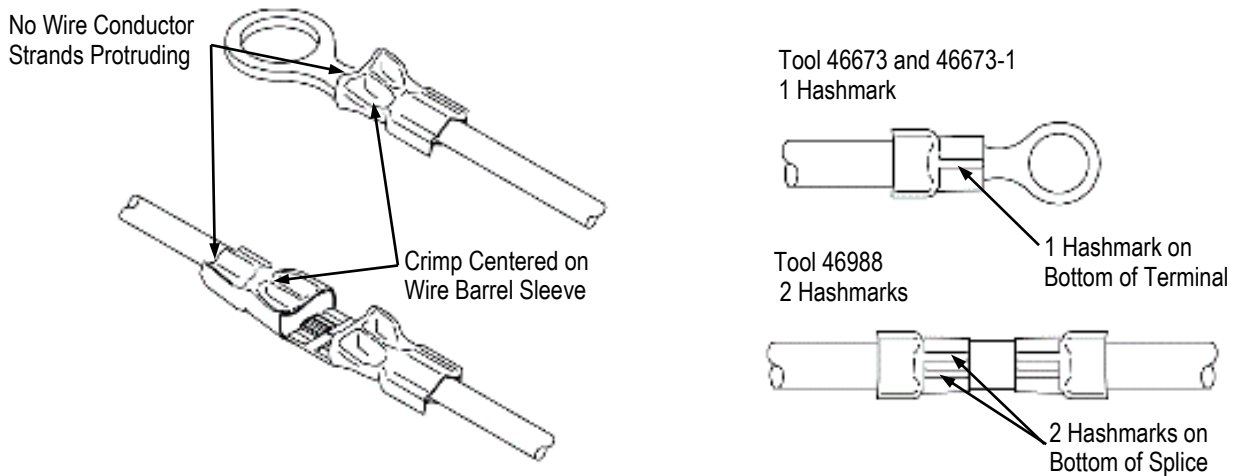

Figure 6
8. Inspect the crimp. Refer to Figure 6 for a properly crimped terminal and splice. Check the insulation grip on the crimped terminal or splice. Refer to Section 4, INSULATION CRIMPING ADJUSTMENT.
*The hashmark code on the bottom of the wire barrel sleeve created by the tool should match the hashmark code referenced with the appropriate tool. See Figure 6.*